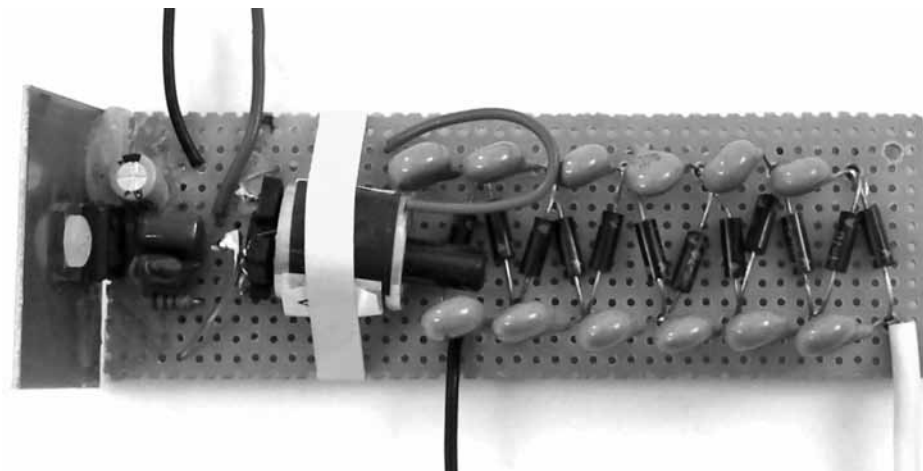
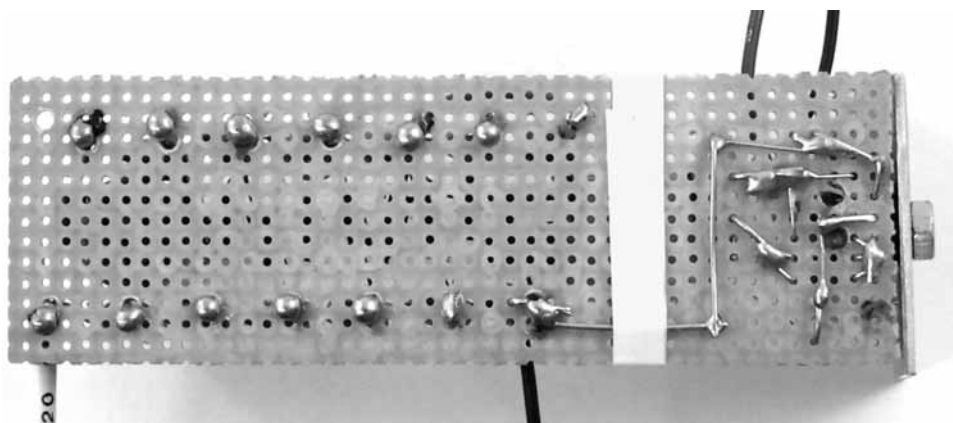

Figure 3-8 PBK50 layout.
Figure 3-9 PBK50 circuitry.
2. Fabricate the perforated circuit board as shown in Fig. 3-8. Enlarge the holes as follows: thirteen 1/16-inch holes at the junction of the diodes and capacitors in the multiplier (Fig. 3-9) and seven 1/8-inch holes for mounting switch S1 and external connection leads.